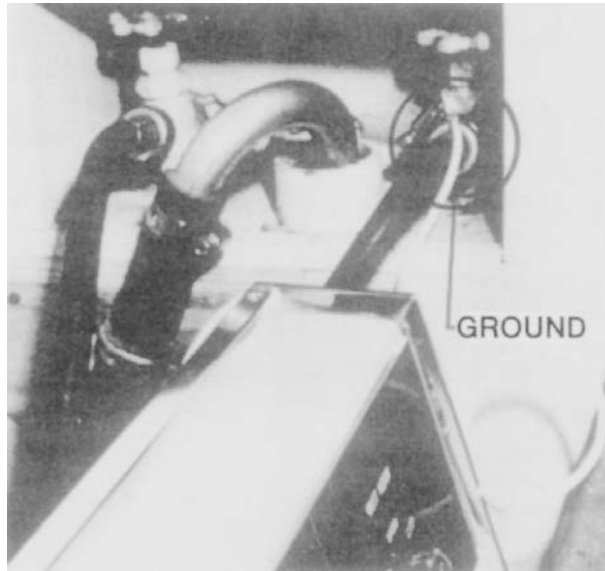

Figure 8
3. Other major appliances and most modern fixtures that are wired directly to the circuit are carefully grounded. Observe the “bare” wire connecting some appliances (e.g., clothes washer to a water pipe) or the short wire (usually green) connecting the housing of a light fixture to the metal junction box (Figure 8).